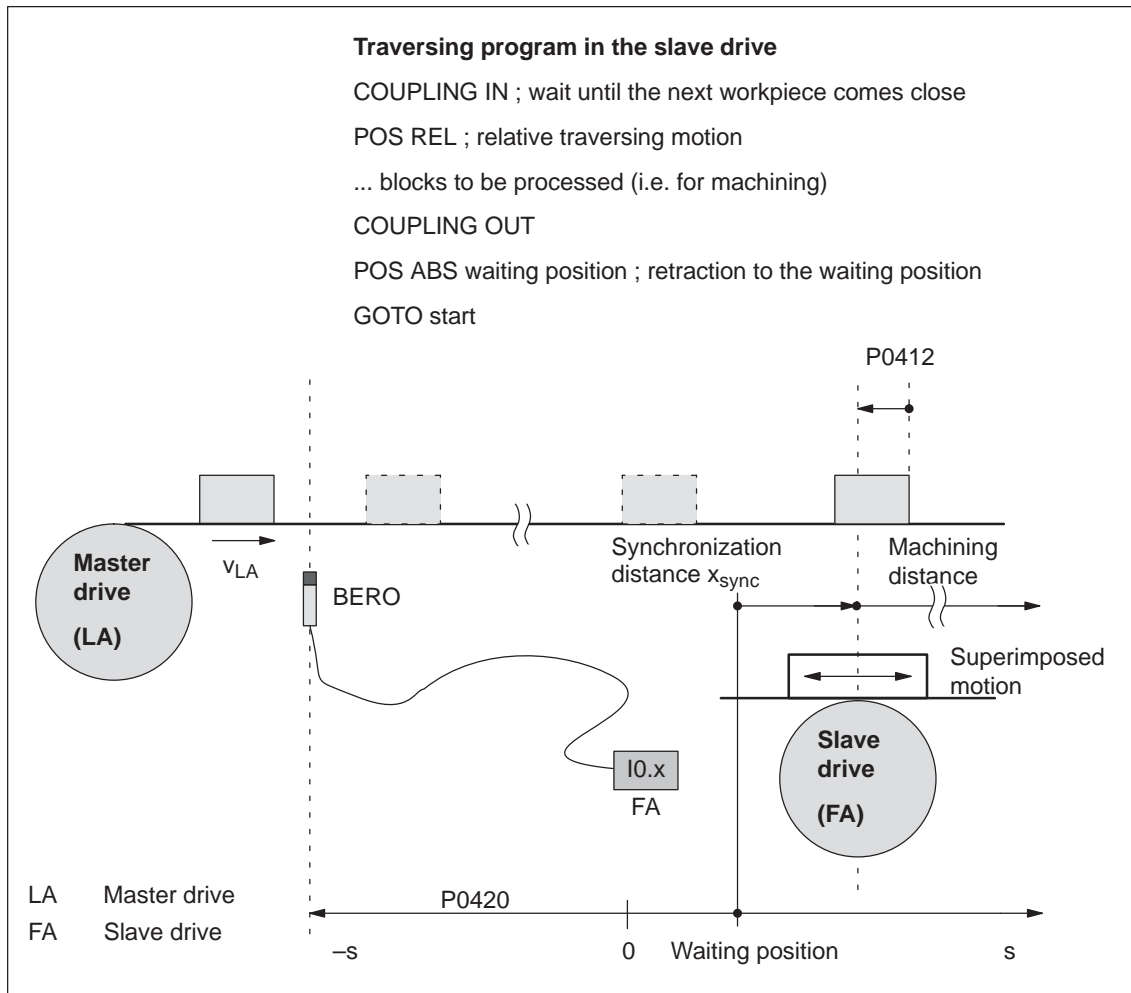

Fig. 6-33 Application example: Coupling via an input terminal with queue functionality
**Application example, queue functionality (refer to Fig. 6-33)**